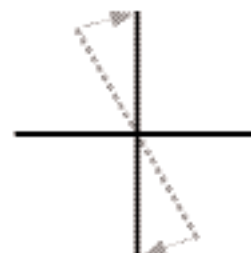

Figure 12
11. Place a piece of paper in the path (*Figure 12*) and verify and correct as needed: